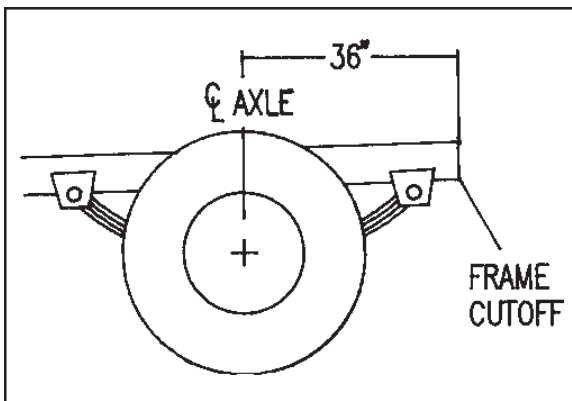

Figure 7-4.
7. Cut off the truck frame rails 36 inches behind the centerline of the rear axle. Discard the pieces you cut off. (See Figure 7-4.)